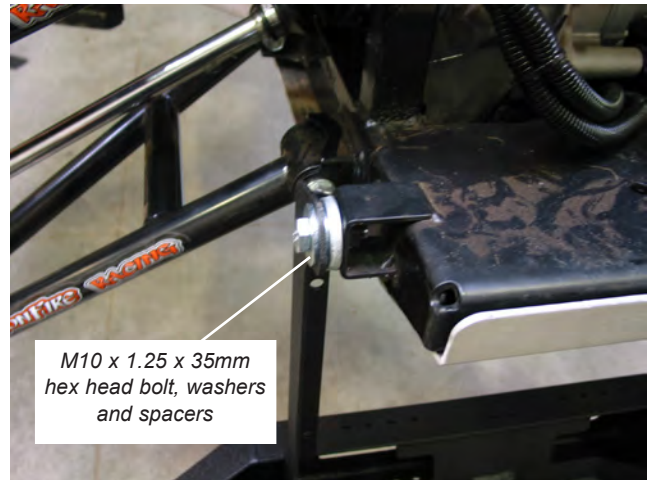

Figure 4
3. Place bumper (A1) into position. For 2008 models, use M10 x 1.25 x 35mm hex head bolt (B1) with washer (B2) on outside of bumper. For 2009+ models, use M10x1.25x55mm hex head bolt (B4) with washer (B2) on outside of bumper. In between the bumper and the frame use one spacer (B3) and one washer (B2), nominally, to space bumper evenly side to side. Additionally, for 2009+ models, use one long spacer (B4) between bumper and frame. Loosely secure with a 17mm socket. See Figure 4 and parts list diagram.
- Loosely secure top bumper mount, as shown in Figure 4, with M10 x 1.25 x 35mm hex head bolt (B1) and washer (B2) on outside of bumper. In between the bumper and the frame use two spacers (B3) and two washers (B2), nominally, to space bumper evenly side to side. Torque all four mounting bolts to 30 lb. ft. (40.7 N-m). See parts list diagram.